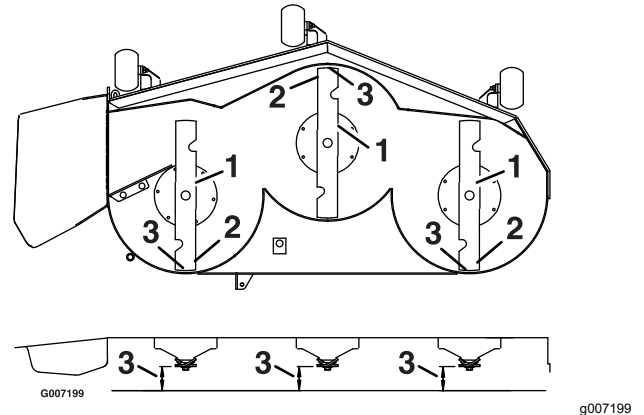

Figure 60
3. Carefully rotate the blades so they are facing front to rear (Figure 60).
4. Measure from the tip of the front blade to the flat surface and the tip of the rear blade to the flat surface (Figure 60).